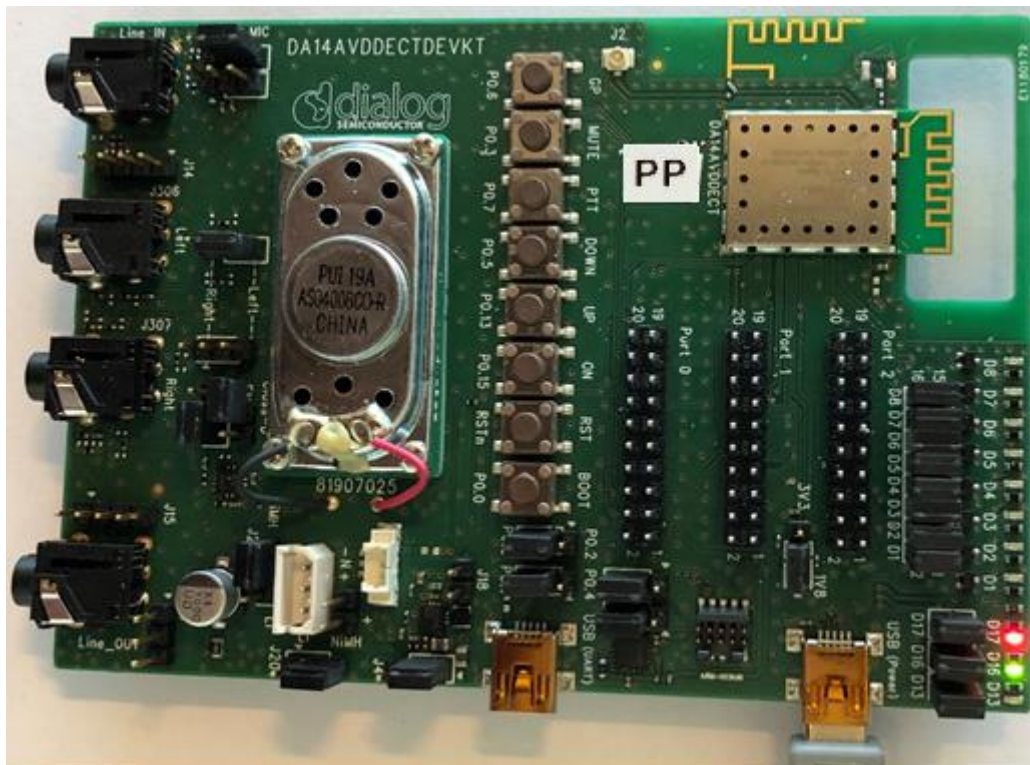

Figure 22: Public Address PP in Registration Mode
14. Press MUTE button during power-up to initiate the registration mode on PP. Wait until red LED (D17) starts blinking (1 sec on/1 sec off) and Green LED (D16) is constantly on. See Figure 22.